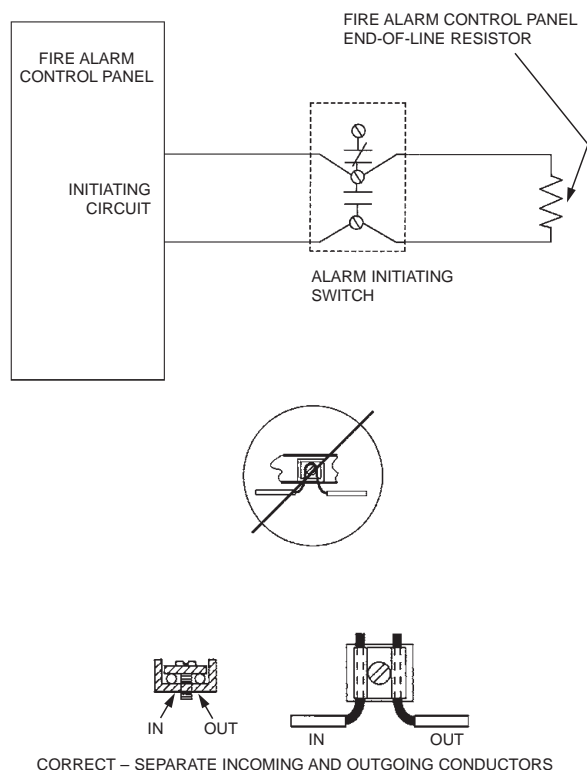

Figure 4-24. Wiring Diagram for Alarm Initiating Switch.
- The Alarm Initiating Switch, Part No. 550077, must be used to close a supervised circuit to the building main fire alarm panel when the control head actuates. This will signal the fire alarm panel that there was a system actuation in the kitchen area. This switch can be field installed in the control head. Refer to Instruction Sheet, Part No. 550081, included with the switch shipping assembly, for detailed mounting instructions. Wiring connections are shown in **Figure 4-24**. The switch is rated at 50mA, 28VDC.